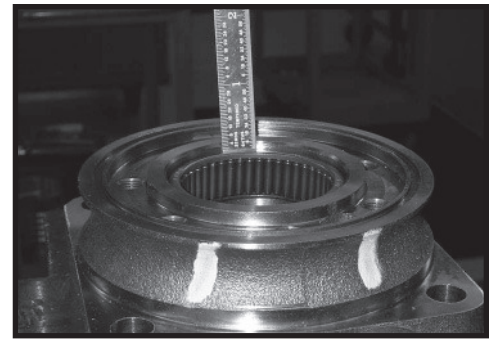

Figure 35
CAUTION: If the bearing mandrel specified in the “Tools and Materials Required for Servicing” section is not available and alternate methods are used to press in bearing/bushing (13) and (19) the bearing/bushing depths specified must be achieved to insure adequate bearing support and correct relationship to adjacent components when assembled. SEE FIGURE 35.